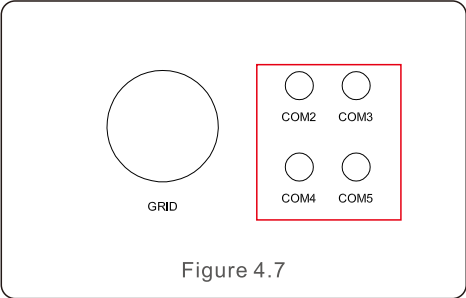

Figure 4.7
- b. Remove the cap nut from the waterproof cable glands labeled at the bottom of the inverter. Remove the plug from the fitting. (in Figure 4.7).